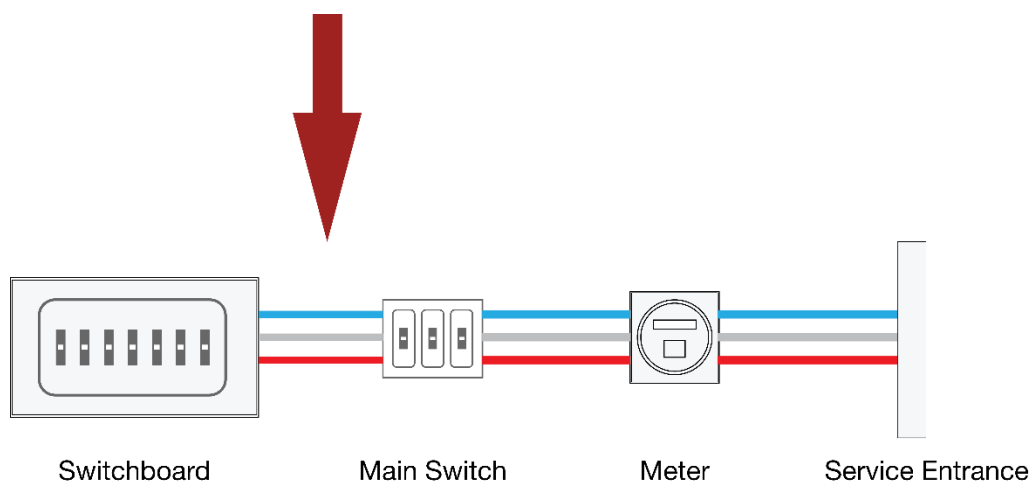

Figure 30: Impedance Measurement Location
5. Follow manufacturer instructions to take an impedance measurement at the entrance to the main panel (Figure 30). Switch the tester to the appropriate impedance measurement mode and take the following readings: